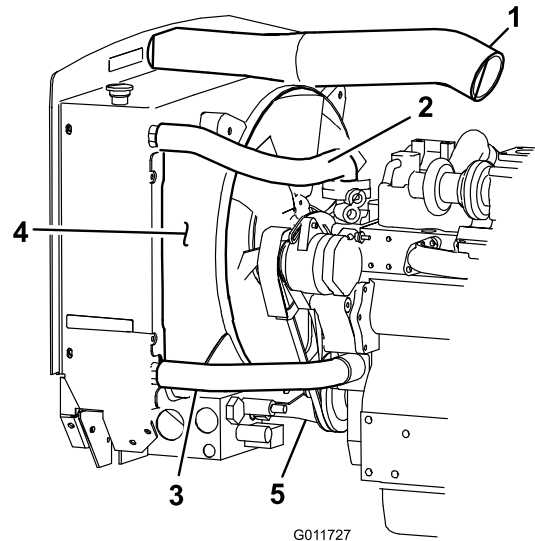

Figure 2
7. Remove the hose from the air cleaner and the radiator shroud (Figure 2). Drain the radiator.
8. Remove the upper and lower radiator hoses (Figure 2).
11. Remove the (4) bolts and washers securing the fan shroud to the radiator (Figure 2). Remove fan shroud.
14. On traction units with serial numbers prior to 210000359, disconnect and remove the hydraulic line (Figure 2) between the rear traction manifold and the filter manifold. Replace with Toro Part No. 105-4508.